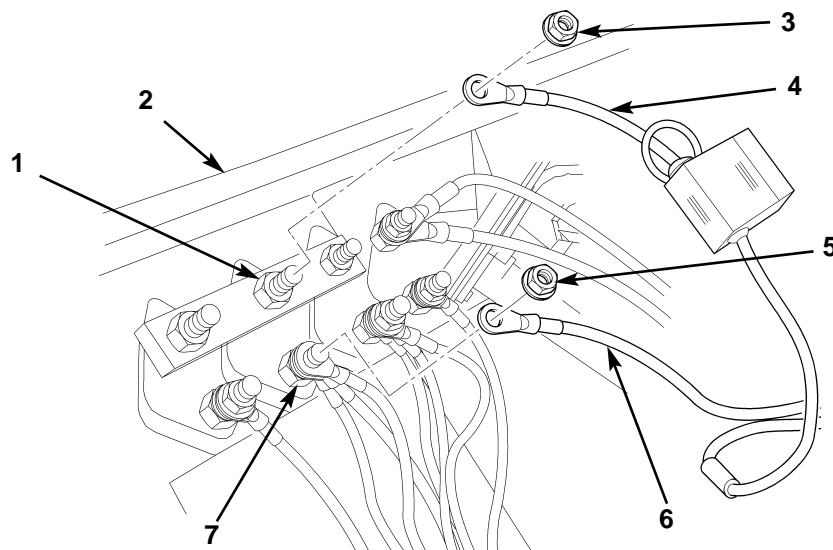

Figure 79. Connecting ABS ECU Harness to CB#3.
21. Route 36 in. (91 cm) blue wire (figure 79, item 6) from ABS warning light to circuit breaker panel (figure 79, item 2).
22. Remove nut (figure 79, item 5) from CB#3, circuit 38, terminal stud (figure 79, item 7), and connect 36 in. (91 cm) blue wire (figure 79, item 6) to terminal stud (figure 79, item 7) with nut (figure 79, item 5).
23. Route 102 in. (91 cm) 5-amp fused orange wire (figure 79, item 4) from ECU harness to circuit breaker panel (figure 79, item 2).
24. Remove nut (figure 79, item 3) from CB#3, circuit 12C, terminal stud (figure 79, item 1), and connect orange wire (figure 79, item 4) to terminal stud (figure 79, item 1) with nut (figure 79, item 3).